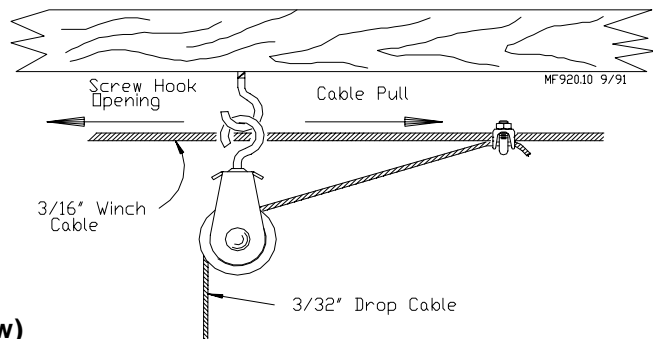

Figure 3. (Side View)
6. Refer to **Figures 3 or 4 through 7** for specific installation instructions for the screw hooks and ceiling hooks.
2. The openings of the screw hooks must be pointed away from the direction of travel when the Power Winch raises the feeder line. See **Figure 3**.